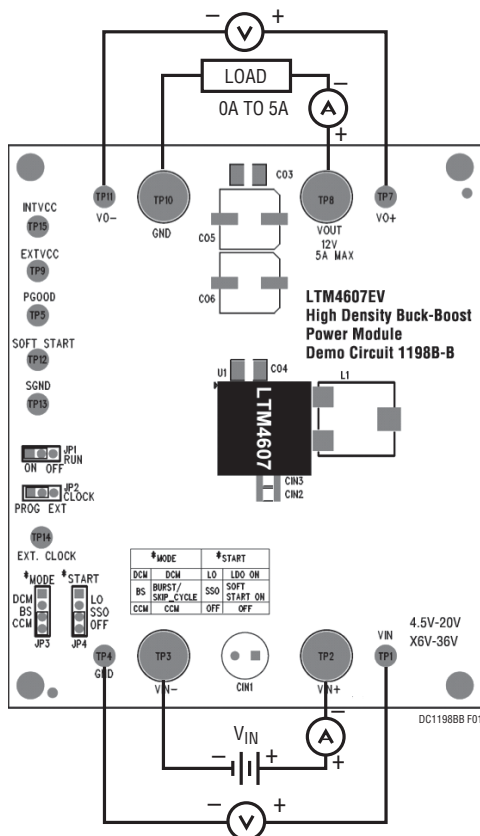

Figure 1. Test Set-Up of the DC1198B-B
Demonstration circuit DC1198B-B provides a simple way to evaluate the performance of the LTM4607EV. Please refer to Figure 1 for the proper measurement equipment set-up, and follow the procedure below:
2. With the power off, preset the load to 0A and the V_{IN} supply to less than 36V. Next, connect the input power supply, load and meters, as shown in Figure 1.